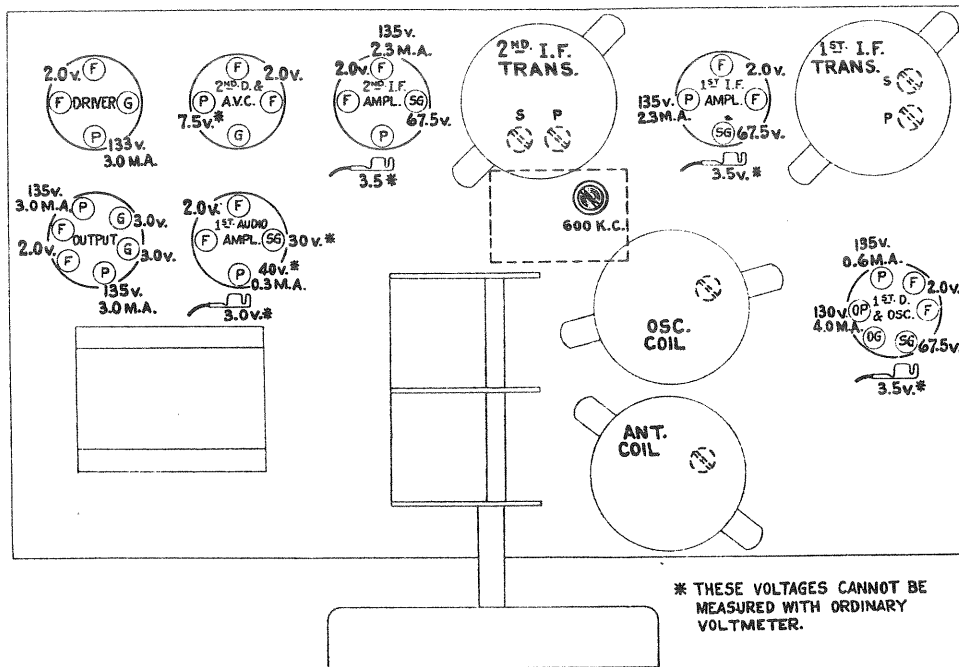

Figure 4—Line-Up Capacitor Locations and Voltage Values at Socket Contacts
To properly align this receiver, it is essential that a modulated R. F. oscillator of suitable frequency range such as Stock No. 9050, an output indicator, Stock No. 4317, and an alignment tool, Stock No. 4160, be available. Figure 4 shows the location of the various line-up capacitors.
The I. F. amplifier comprises two stages which have three transformers. The third transformer is untuned so that only a total of four tuned circuits are used. Refer to Figure 4 and proceed as follows:
- (b) Then set the Test Oscillator at 1720 K. C., the dial pointer at 1720, and adjust the oscillator output so that a slight glow will be obtained in the output indicator when the volume control is at its maximum position. Adjust the two trimmers under the two R. F. coils, see Figure 4, until a maximum output is obtained. Then shift the Test Oscillator frequency to 600 K. C. The trimmer capacitor, accessible from the top of the chassis, should now be adjusted for maximum output while rocking the main tuning capacitor back and forth through the signal. Then repeat the 1720 K. C. adjustment.
(2) Voltage and Current Measurements
Voltage and current values listed in the following table and indicated at the Radiotron socket contacts on Figure 4 form a reference basis for test of the receiver. It is to be noted that all voltages are given with respect to chassis-ground, excepting those appearing across the filaments (F-F). The values shown are